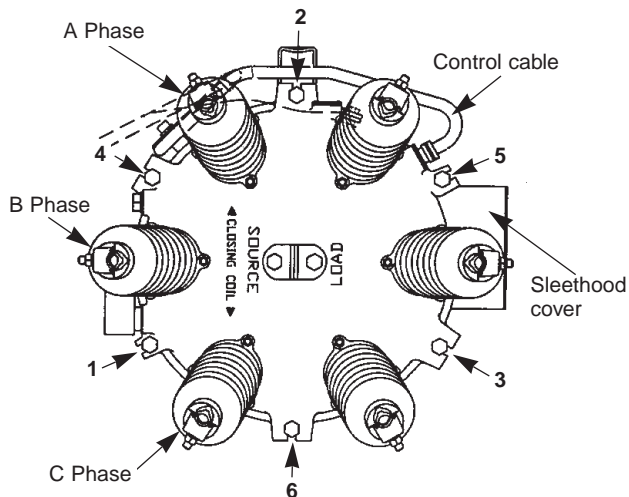

Figure 16.
8. Tighten the six head bolts and washers on the head assembly of the tank in an alternating pattern according to the sequence shown in Figure 16. Torque each head bolt to 33-54 Nm (25-40 ft. lbs.).